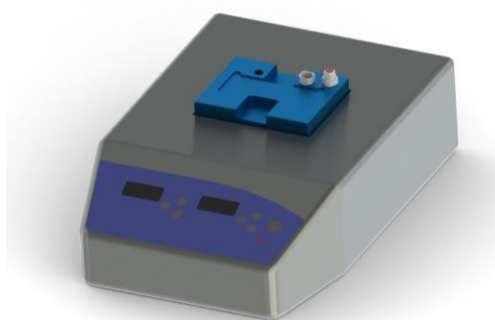

Figure 1 - FFPE sectionWARMER placed in heater
1. Place FFPE sectionWARMER in heater as shown in figure 1.